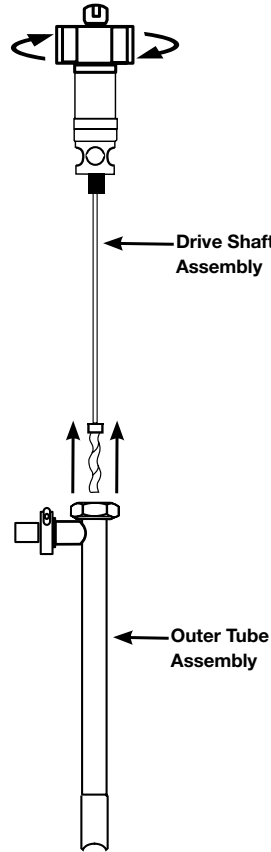

Figure 5
5. Once the Hex Nut is loosened, remove the outer tube from the drive shaft assembly (see Figure 5).
11. Tighten the Hex Nut on the pump body to the Bearing housing. Use screwdriver (or similarly shaped object) in the mechanical seal inspection port (see Figure 5, page 4).
12. Use a large wrench to tighten the Hex Nut while simultaneously holding the screwdriver in the seal inspection port (see Figure 5, page 4).